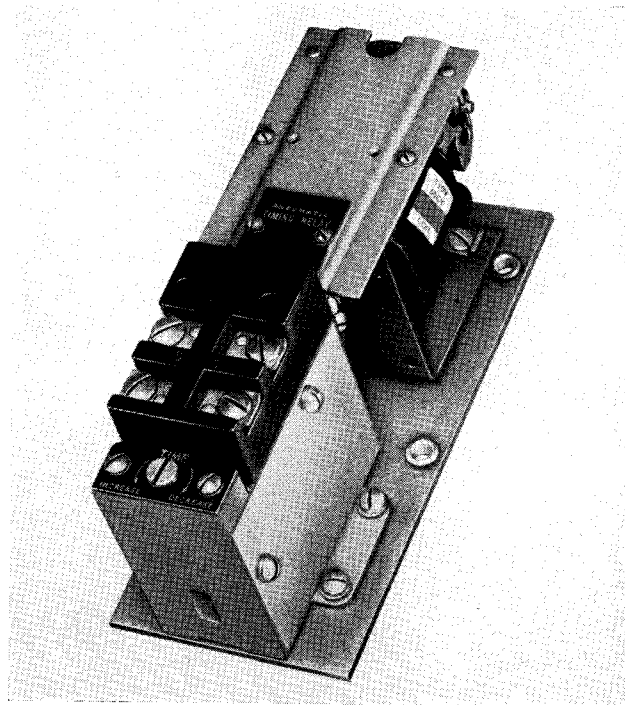

FIG. 7. Complete Solenoid Operated Time Delay (110 Volt Coil) S# 1590 746
- Complete Solenoid Operated Time Delay Relay (110 Volt Coil) ..S# 1590 746 (Fig. 7)